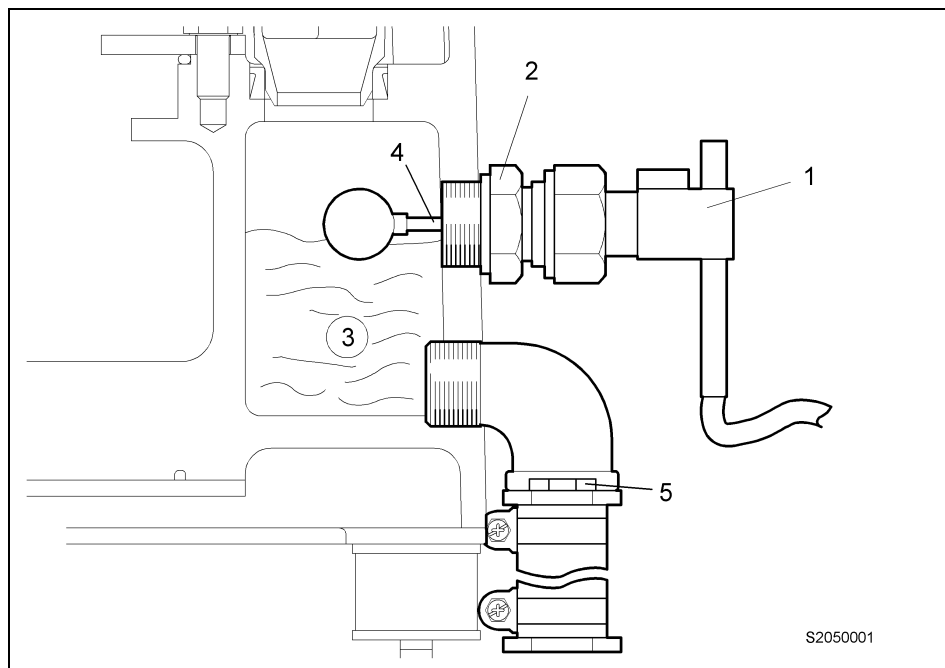

Fig. 273
- Fit float switch in accordance with Fig. 273.